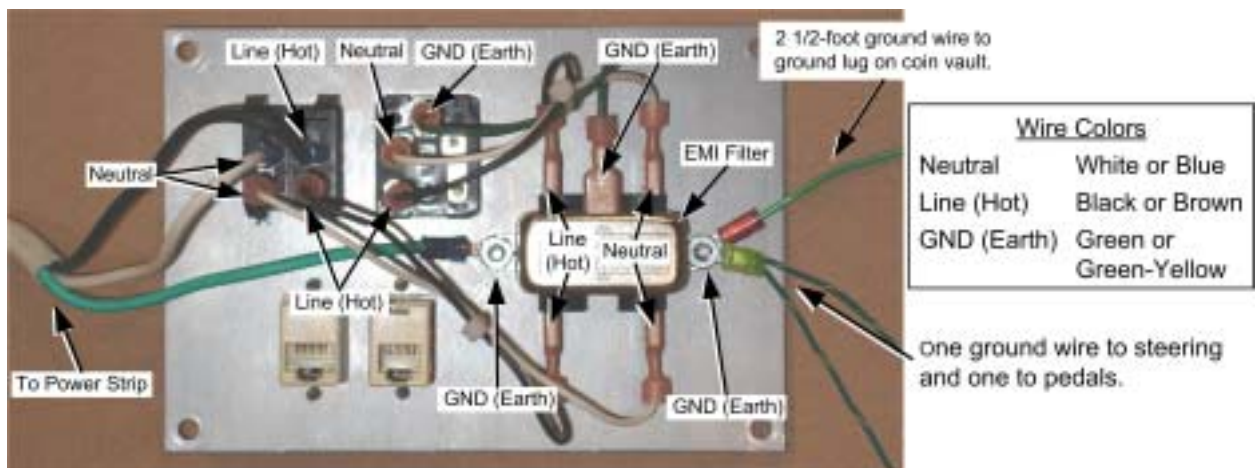

Figure 2. Power Plate Wiring (Inside Cabinet)
4. Refer to Figure 2 and inspect the power plate to make sure that the correct color wire is connected to each connector.
- a. Install a 2 1/2' ground wire to the lug on the right of the EMI filter, as shown in Figure 2. Use a #8-32 Kep nut to secure it in place. Secure the nut tightly.